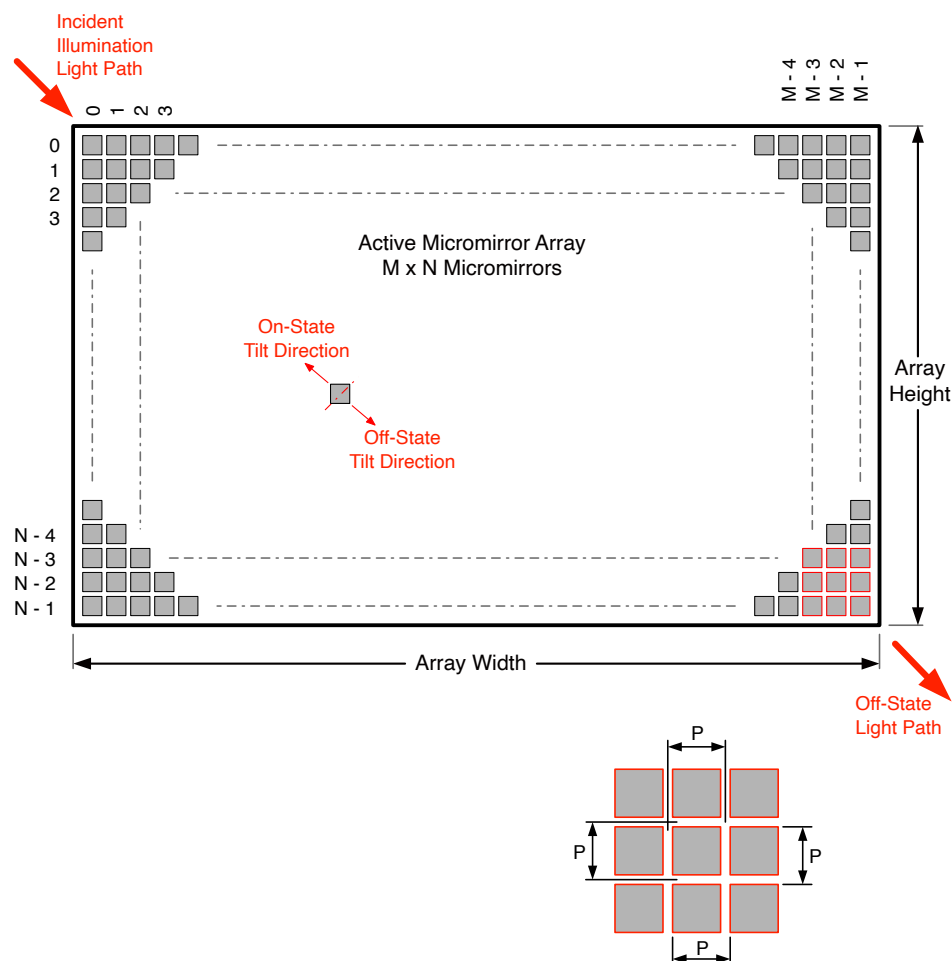

Figure 5-15. Micromirror Array Physical Characteristics
(1) See Figure 5-15.
(2) The structure and qualities of the border around the active array include a band of partially functional micromirrors referred to as the *Pond Of Micromirrors* (POM). These micromirrors are structurally and or electrically prevented from tilting toward the bright or ON state but still require an electrical bias to tilt toward the OFF state.